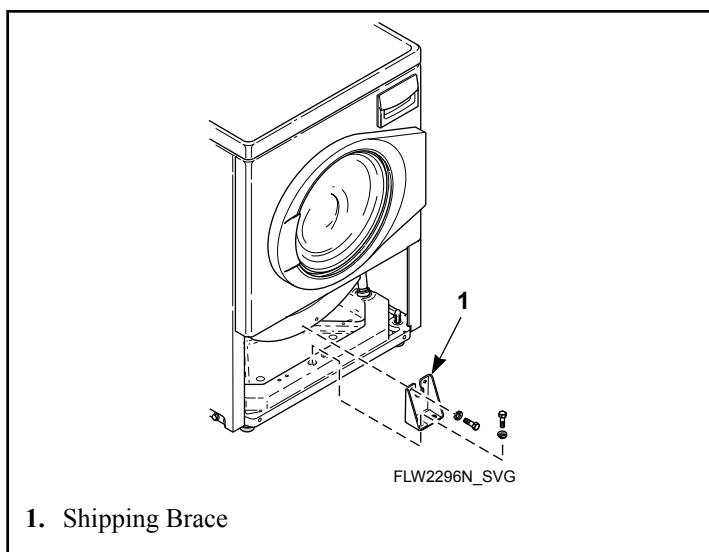

Figure 40
4. Attach shipping brace to weight and base using four bolts and washers. Refer to *Figure 40*.